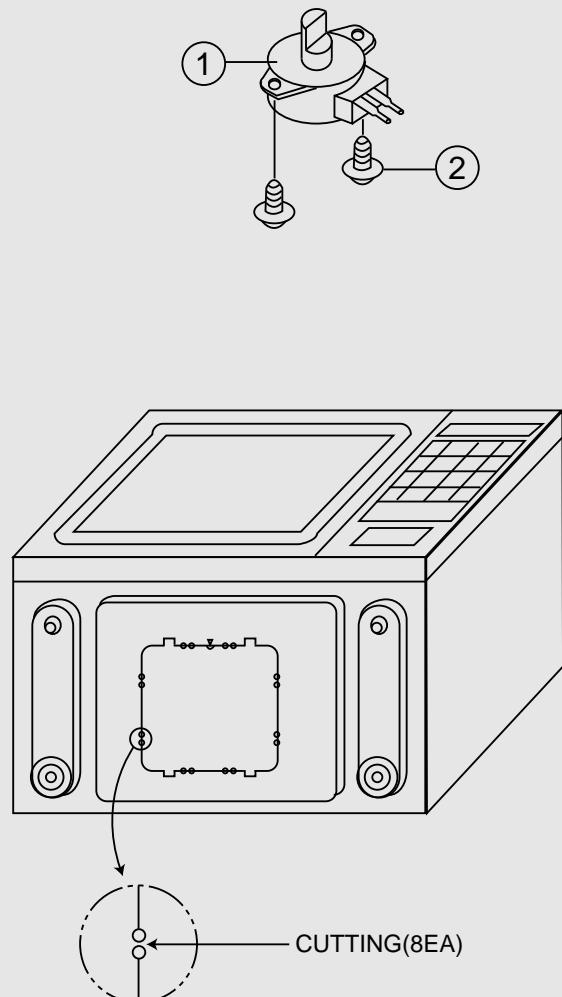

Fig. 9
9. To remove tray motor and under Heater. (Refer to Fig. 9)
- 1) Cut the tray motor cover parts from the base plate (Refer to Fig. 9).